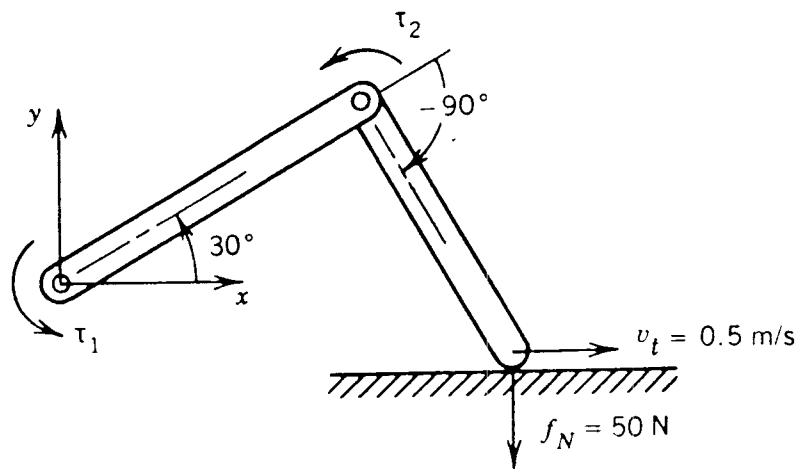

Fig. 4 A two degree of freedom manipulator in constrained motion
4. Figure 4 shows a 2 d.o.f manipulator. The end-point of the manipulator is in contact with a smooth surface and while applying a normal force f_N to the surface, the manipulator is moving in a constant speed v_t along the tangential direction. Compute the required joint torques τ_1 and τ_2 in the case shown in figure.